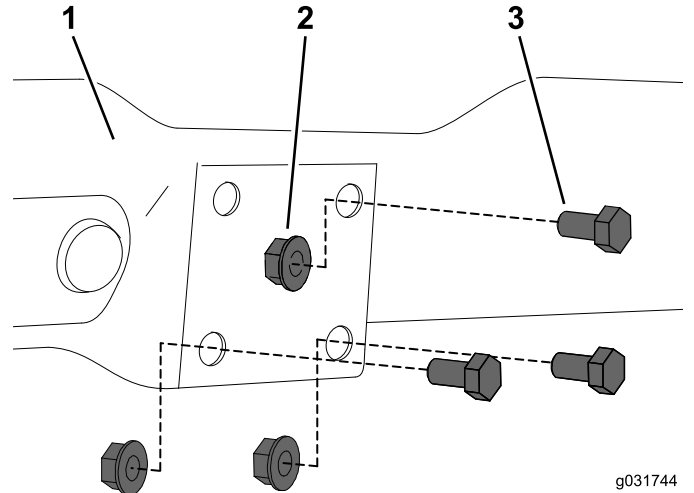

Figure 2
1. Remove the 3 bolts and nuts securing the dash panel to the front frame (Figure 2).